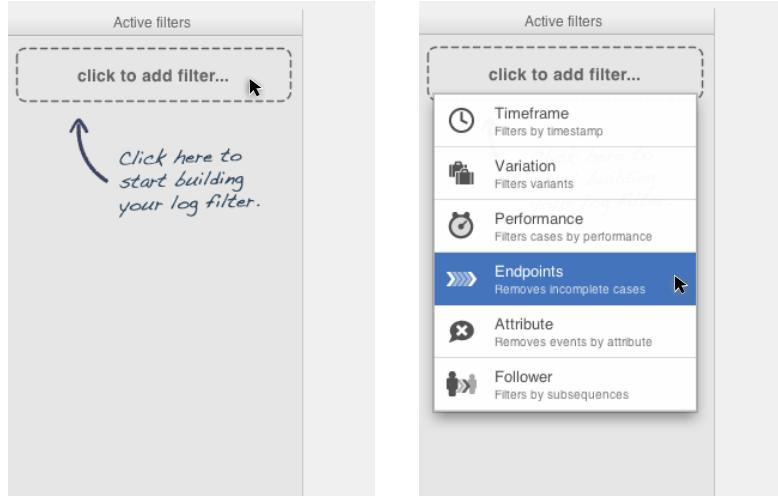

Fig. 5.4. Add new filters by clicking on the *click to add filter...* area in your filter list. Then, choose the type of filter that you would like to add.
When you want to add a specific filter to your data set, you can click on the *click to add filter ...* area in the filter list (see ❷ in Figure 5.3). In Figure 5.4 you see how a list of the different types of filters appears in the next step. Move your mouse pointer along this list to choose the type of filter that you would like to add.